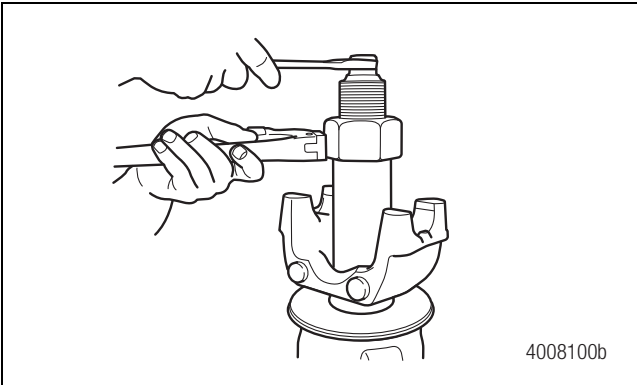

Figure 22
1. Use a press and sleeve or special yoke/flange driver tool, SPX Kent-Moore part number J 48718, to install the yoke or flange. Do not use the nut to draw on the yoke or flange. The yoke or flange must be seated against the outer bearing. If a press and sleeve are used, verify that the input shaft is well supported. Figure 22.